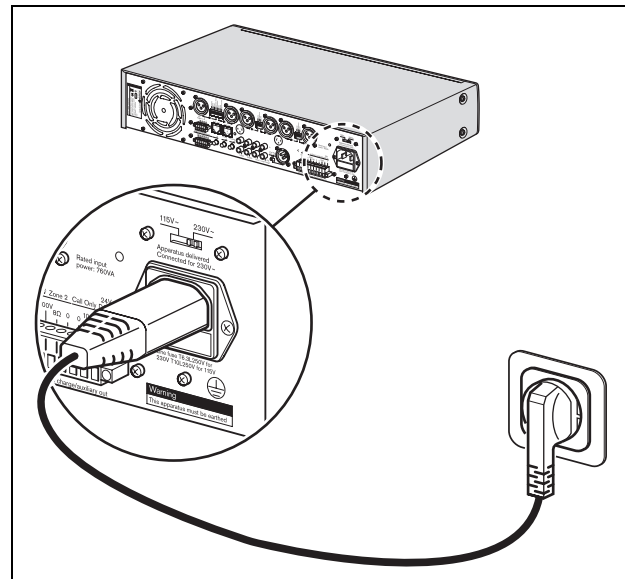

figure 3.2: Power connection and voltage selector
- 1 Make sure the voltage selector (115V/ 230V) is correctly set for the country's main voltage (see figure 3.2).